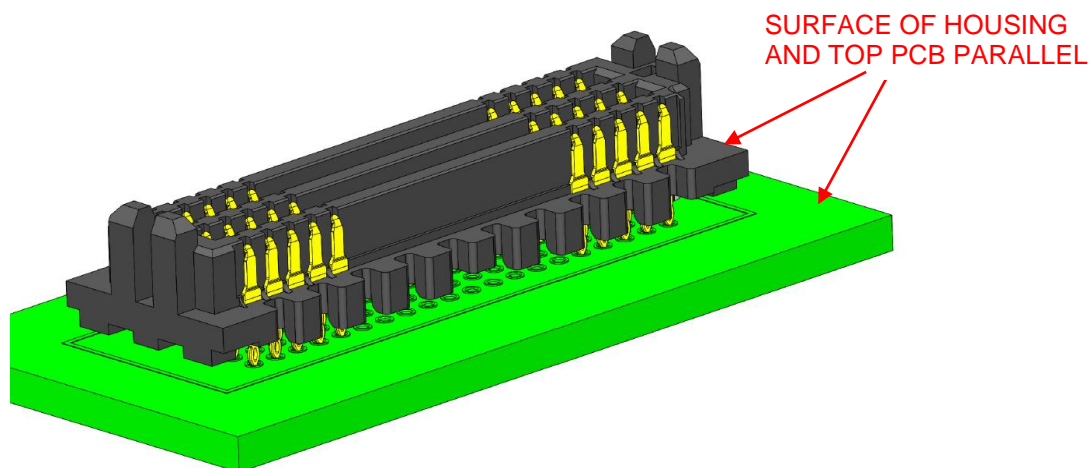

Figure 1: Connector Placed On to PCB
- Place press fit tails into holes on the PCB, the surface of the housing should be parallel with the top surface of PCB after all the tips have been properly inserted. See figure 1